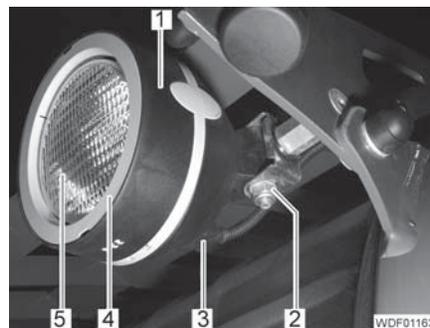

Fig. 468 Headlight
- Remove the plug (Fig. 468,3).
- Unscrew the nut (Fig. 468,2).
- Remove the headlight (Fig. 468,1).
- Place the new headlight (Fig. 468,1) into position.
- Screw the nut (Fig. 468,2) onto the thread and tighten it.
- Attach the connector (Fig. 468,3) onto the headlight.
- ▷ The lamp glass (Fig. 468,5) must be aligned so that the lettering is not upside down. Align the lamp glass as necessary.
- Remove the cover (Fig. 468,4).
- Insert the cover (Fig. 468,4).